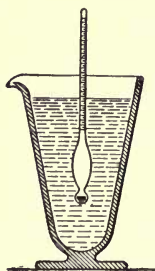

FIG. 52.—Hydrometer.
**81. Hydrometer.**—The common method of determining the specific gravity of liquids is by means of the hydrometer (Fig. 52). This instrument consists of a glass tube with mercury or lead shot in the bottom to keep it in the water. A scale is graduated on the narrow stem reading either directly or indirectly into specific gravity reading. The scale is graduated by placing it in liquids of known strength and marking the level of the liquid on the stem. It is usual to have two separate instruments, one for light liquids, on which the mark is near the bottom of the stem, and one for heavy liquids, on which it is near the top.